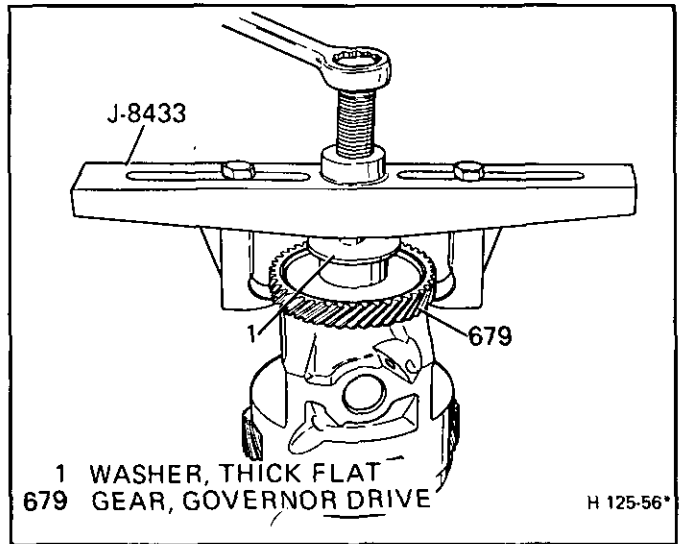

Figure 51 Governor Drive Gear Replacement
- ➔ Remove or Disconnect (Figure 51)